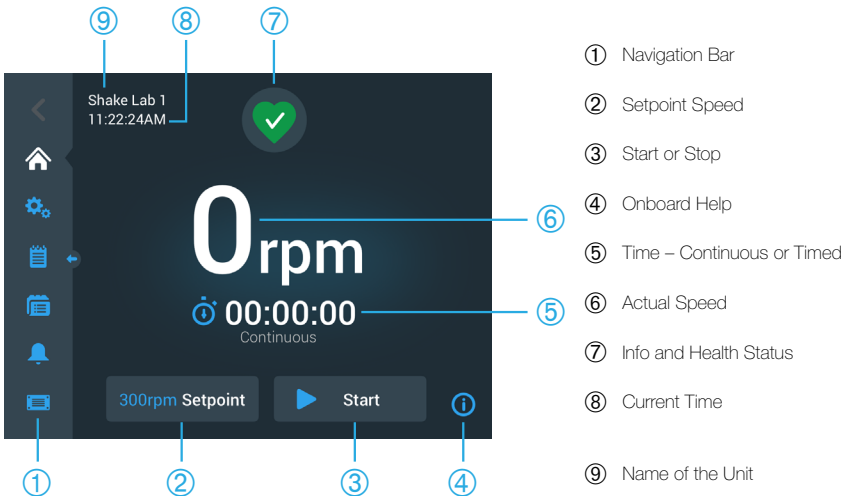

Figure 14: Home Screen of the Graphical User Interface (GUI)
When the shaker is in good health, the touchscreen display shows a green heart icon in the Info and Health Status area (⑦ in Figure 14). Tapping the green heart icon opens the status screen. The status screen provides a full set of information on the shaker.
When an alert is issued, the touchscreen display shows a yellow bar on top of the current screen. After a short time, the yellow alert bar goes away. Only the yellow triangle indicates that alerts exist for the shaker. The triangle icon has a blue circle with a white border that shows the number of active alerts. Tapping the triangle icon in the Info & Health Status area (⑦ in Figure 14) opens a screen listing all alerts that are currently active. The latest alert appears expanded to let you view the full details. You can scroll through the list and tap on any list item to expand it and read more.
When an alarm is issued, the touchscreen display shows a red bar on top of the current screen. The Info & Health Status area (⑦ in Figure 14) displays a red alarm bell enclosed by sound waves. Additionally, an audible alarm tone constantly sounds. This can be configured to be silent. (“Alarms and Alerts” on page 30)